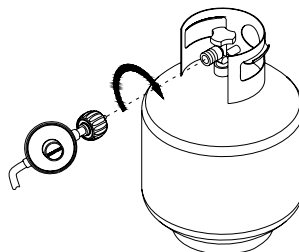

Figure 20
5. When connecting regulator and hose assembly to tank valve hand tighten quick coupling nut clockwise to a full stop. (Fig. 20) Do not use a wrench to tighten because it could damage the quick coupling nut and result in a hazardous condition.